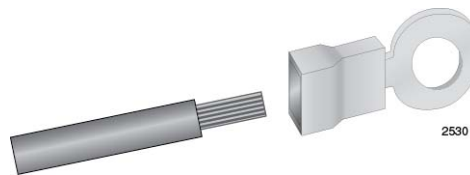

Figure 124. Attaching the Stranded Grounding Wire to the Grounding Terminal
2. Insert the grounding wire into the grounding terminal provided with the power supply and use a crimping tool to secure it to the grounding terminal. See Figure 124.